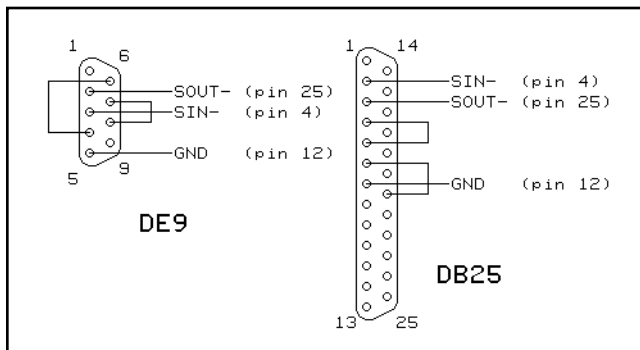

Figure 3.1: Answer MAN Sr. connections to an RS-232 interface.
2. Connect a serial terminal or a PC running communications software to pins 4, 25, and 12 of the Answer MAN (Sin-, Sout-, and GND) as shown in Figure 3.1.
Figure 3.1 shows how to connect the Answer MAN Sr. to an RS-232C device.